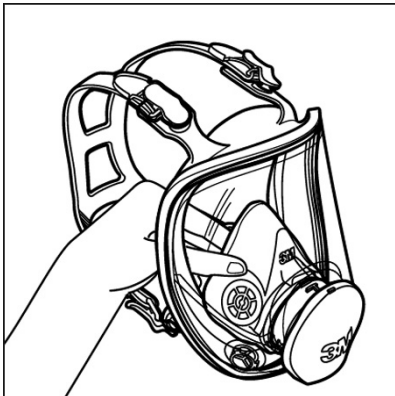
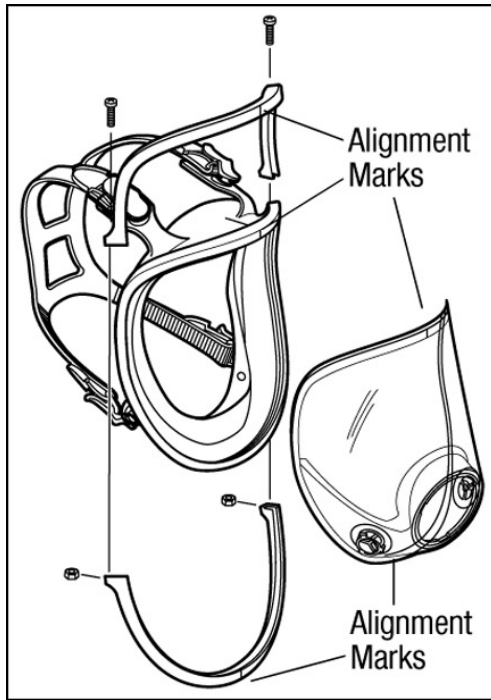

Fig. 11
Fig. 18
1. Remove nose cup assembly by pulling away from center adapter inside facepiece. (Fig. 11)
1. Remove the nose cup assembly by pulling away from center adapter inside facepiece. (Fig. 11)
1. Remove nose cup assembly from inside facepiece. (Fig. 11)
3. Remove the (2) Phillips screws from the lens/face seal frame. Pull the frame top and frame bottom away from face seal.
5. Place new lens and face seal together aligning marks at top and bottom. Position top and bottom frame, again aligning marks top and bottom. Install and securely tighten screws. Make certain alignment marks are properly aligned top and bottom with all components. (Fig. 18)
7. Replace nose cup assembly. (Fig. 11)
2. Position bottom frame, aligning center vertical mark, and press in place. (Fig. 18)